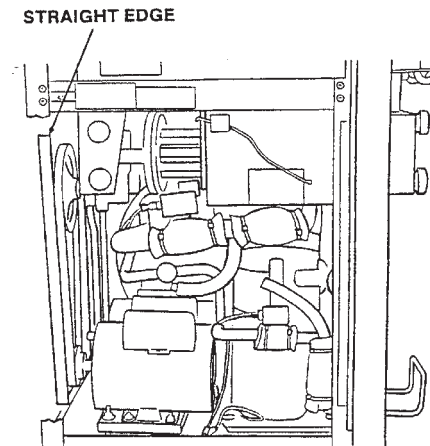

Figure 70. Speed Reducer Adjustment
3. Align the speed reducer pulley with the motor pulley and fully tighten the setscrew (Figure 70).